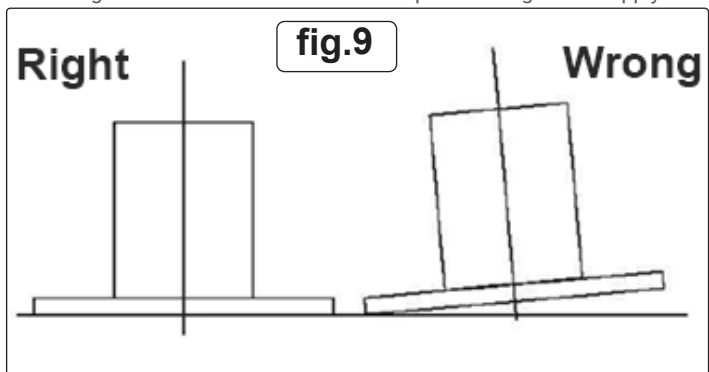

fig.9
- After the installation, make sure that the cooker hood is level to avoid grease collection at on end, fig.9.